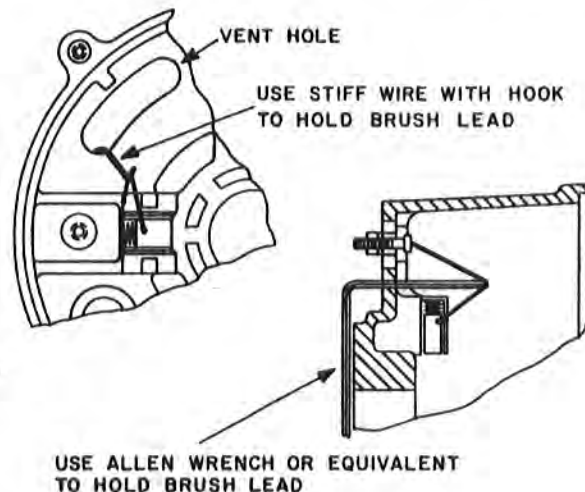

Figure 11
3. To spread the brushes when installing the rotor, use an Allen wrench or equivalent to hold insulated brush. (Use hole in the end head just below the field terminal.) The ground brush is held with a hook made out of stiff wire. Figure 11.